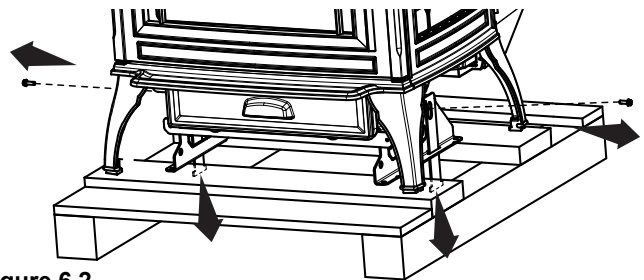

Figure 6.2
- Using 3/8 socket or wrench remove bolts from side pallet mount brackets. Side pallet mount brackets will slide downwards from appliance (**Figure 6.2**).